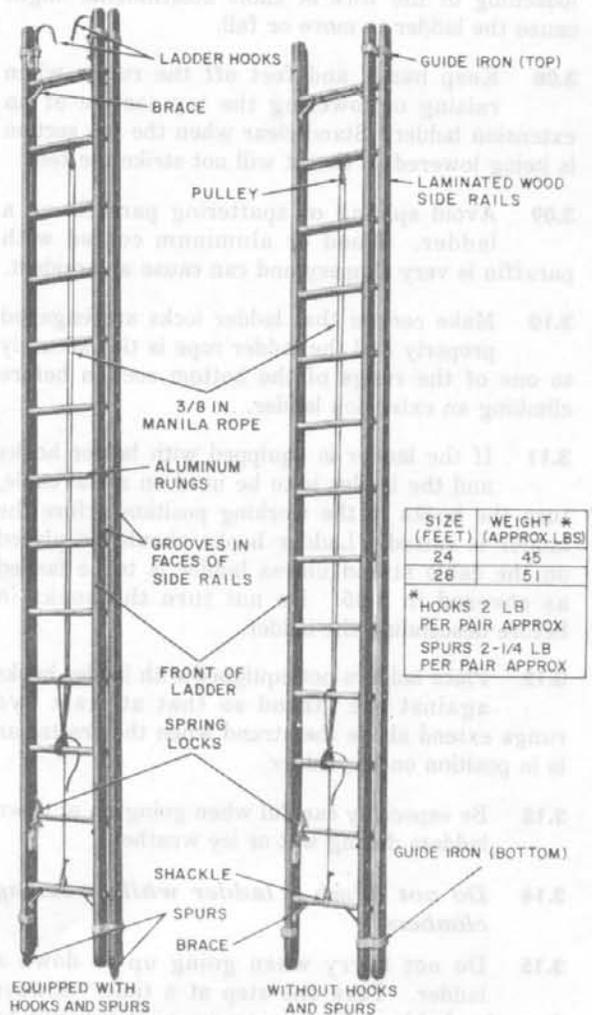

Fig. 2—D Extension Ladders
2.04 The *D Extension Ladders* (Fig. 2) are available in 24- and 28-foot sizes only. These ladders consist of two sections with parallel side rails of laminated wood coated with green natural stain and have tubular aluminum rungs. The faces of the side rails have been grooved between the rung positions to effect a weight reduction. The top section is equipped with automatic spring locks which engage rungs of the bottom section. A 3/8-inch manila rope and pulley are provided for raising and lowering the top section. The ladders may be equipped with spurs to prevent slipping. Where work is to be done on aerial cable, the ladders may be obtained equipped with rotatable ladder hooks.